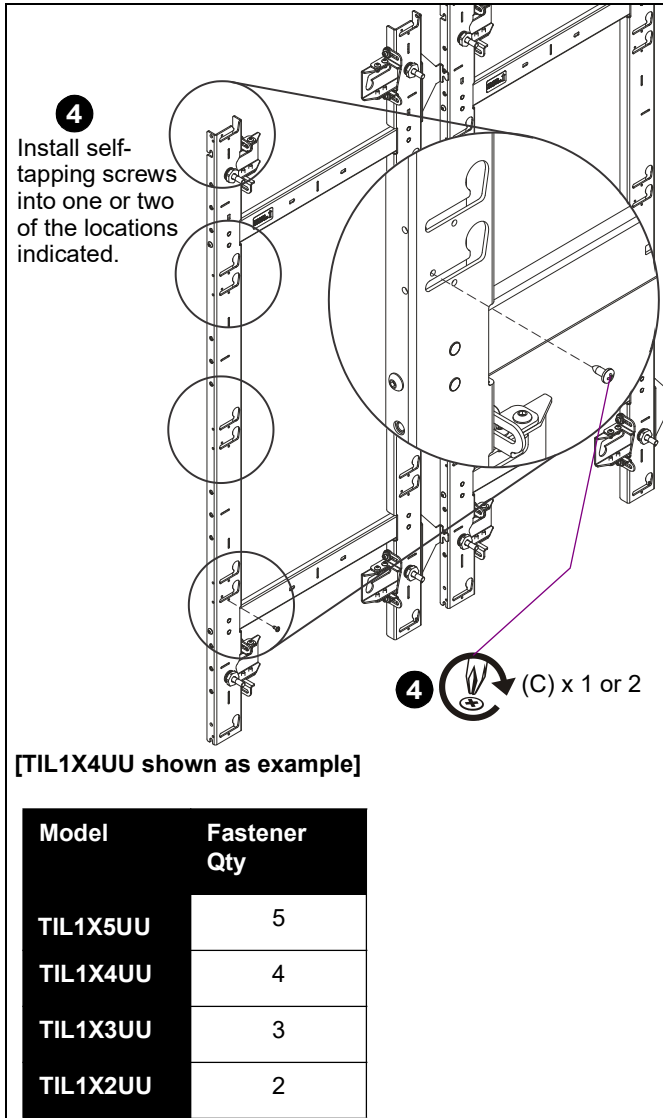

Figure 18
- Install one or two #10 x 1/2" Phillips self-tapping screws (C) near the mounting button slots on the far left mount. **One or two is typically all that is needed per mount.** (See Figure 18)